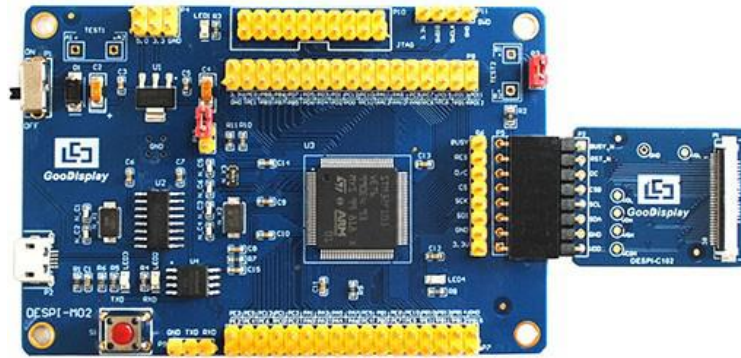

Figure 11 : The position of P12
- 3) Connect P12 with a short-circuit jumper, the position of P12 is shown in Figure 11.